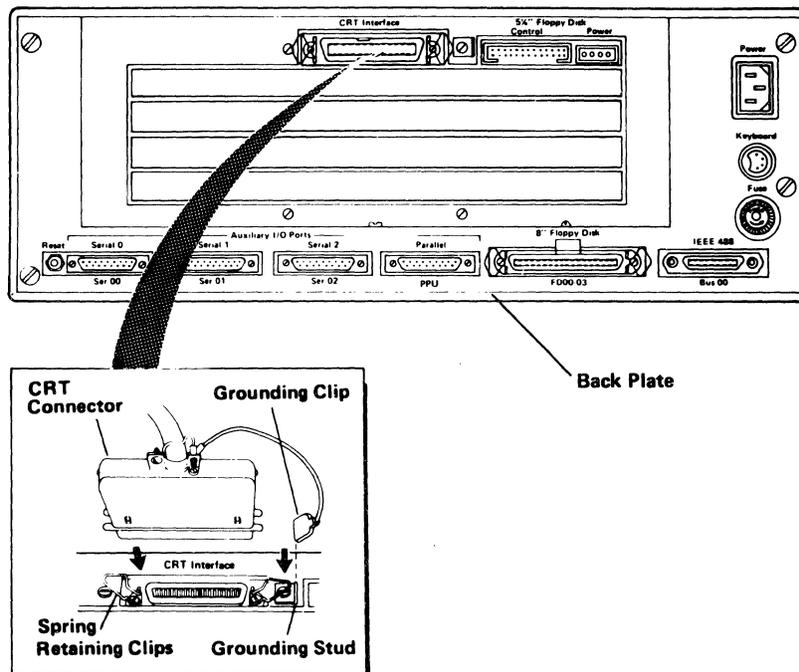

Figure 4-25. CRT Display Unit Connections.
5. Reconnect the CRT display cable assembly to the back of the processor unit by pushing the connector into position until it fits snugly, snap the spring retaining clips into position, and push the ground wire clip onto the grounding stud (See Figure 4-25).